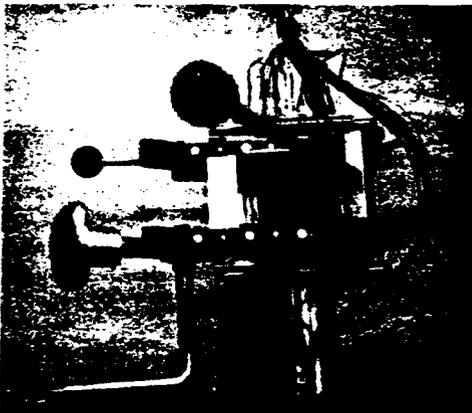

FIG. 27 PARTIAL HEAD CLOSURE -
4.314 Carefully close the forming head handle, but not all the way, only until the forming heads have contacted and are holding all of the mandrel wires in place. Carefully pull the wires out of the springs. See Fig. 27.